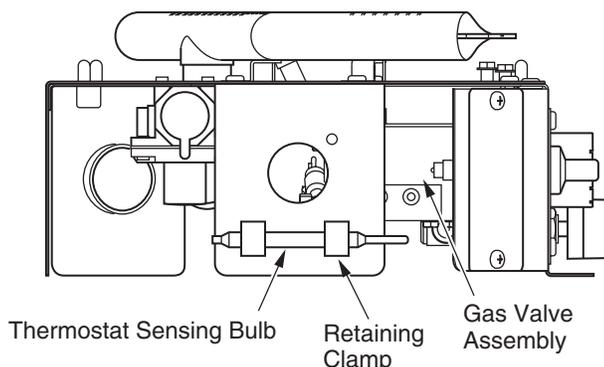

Figure 49 - Location of Gas Valve Assembly and Thermostat Sensing Bulb
1. Locate the gas valve assembly and thermostat sensing bulb (see Figure 49).